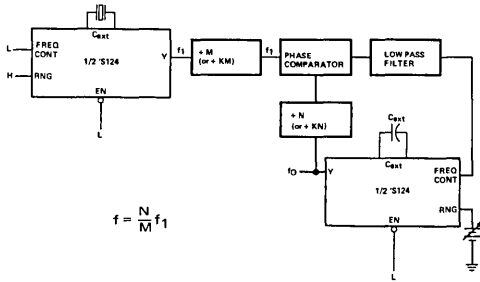

FIGURE 1—PHASE-LOCKED LOOP
A basic crystal-controlled phase-locked loop is illustrated in Figure 1. This application can be used for implementation of:
- Frequencies  $\frac{f_1}{M}$  and  $\frac{f_1}{N}$  can be divided equally by the same constant (K) also shown in Figure 1. The constant can be any value greater than unity ( $K > 1$ ), and should be selected to yield frequency ranges that can be handled adequately by the phase-comparator and filter. The output frequency ( $f_o$ ) retains the same relationship as previously explained because now: